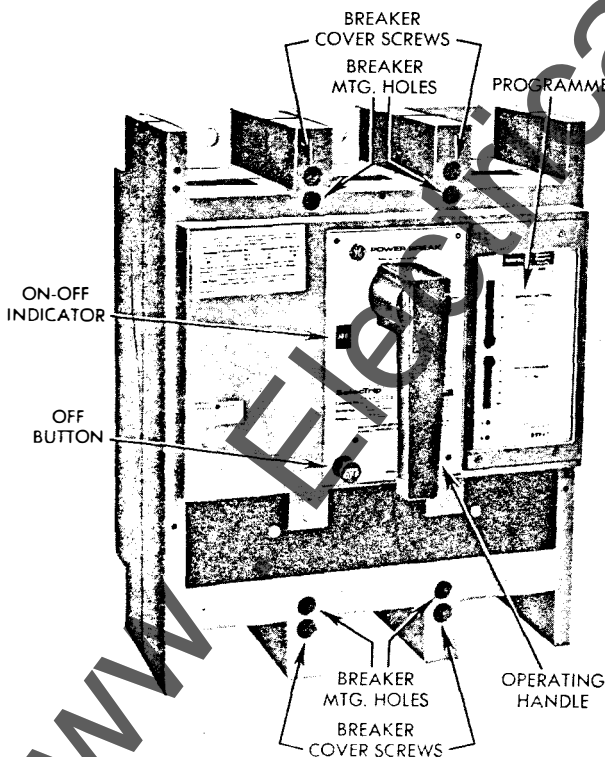

Fig. 1. Manual Circuit Breaker
1. Cover Removal — see Fig. 1.